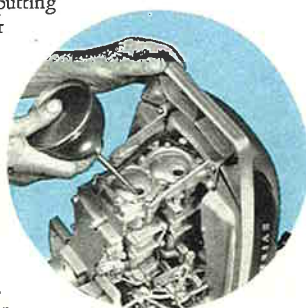
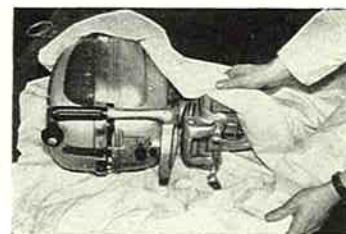

Fig. 22
Fig. 24
precaution to remove the spark plugs, put a couple of teaspoonfuls of pure lubricating oil into the cylinders (Fig. 22) and then revolve the flywheel several times to spread the oil over the cylinder walls before putting the spark plugs back. Drain and fill Gear Housing per instructions on page 4. "GEAR LUBRICATION". Wipe the entire motor with a cloth saturated with oil. (Fig. 23) An exterior film of oil won't hurt any piece of machinery, but dampness and rust WILL. When these instructions have been carried out, wrap the motor in a piece of canvas, an old blanket, or in heavy paper. (Fig. 24) and store in a dry place.
If your motor has been idle for some time, or has been stored without following the instructions, "Storing the Motor Away", it is a good plan to squirt a little pure lubricating oil into the cylinders through the spark plug holes. (Fig. 22) This done, the flywheel should be revolved a few times, to spread the oil around the cylinder walls.
8. Put about two to three tablespoonfuls of oil, of the kind you mix with gasoline, in each cylinder, through each spark plug hole, (Fig. 22) and with the spark plugs removed and both wires grounded rotate flywheel rapidly by pulling starter handle. Repeat this process several times, then put spark plugs in cylinders, fill fuel tank with new fuel mixture and proceed to start motor.